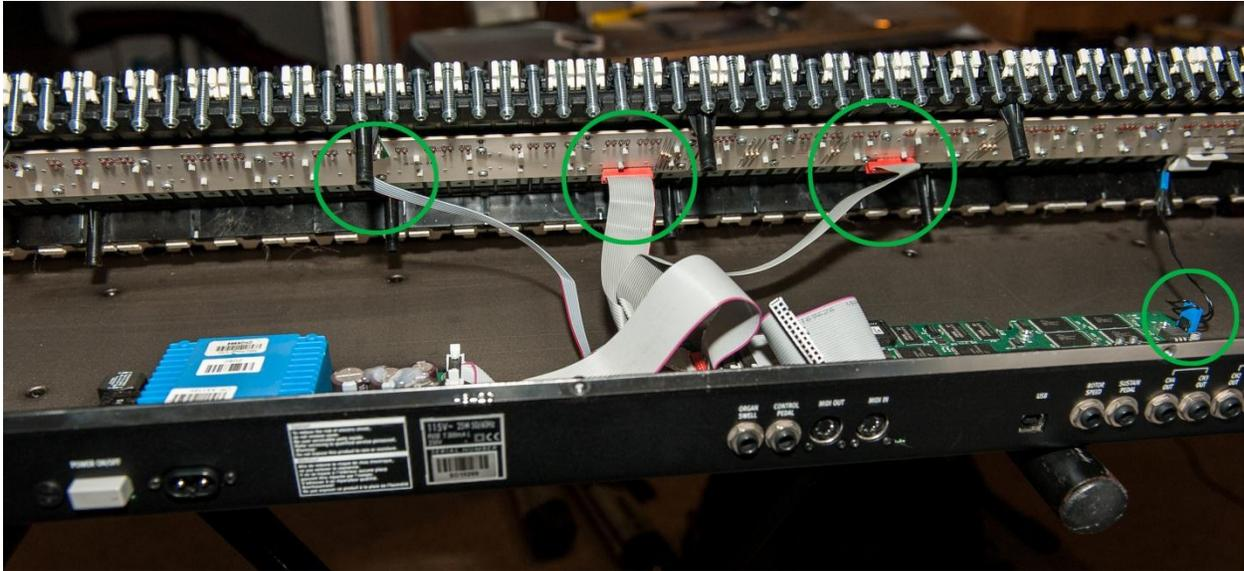

Figure 7 - Disconnecting cables from key bed
10) From behind the keyboard, carefully rotate the key bed up. Refer to Figure 7 and locate the six conductor ribbon cable and carefully disconnect it from the key bed.